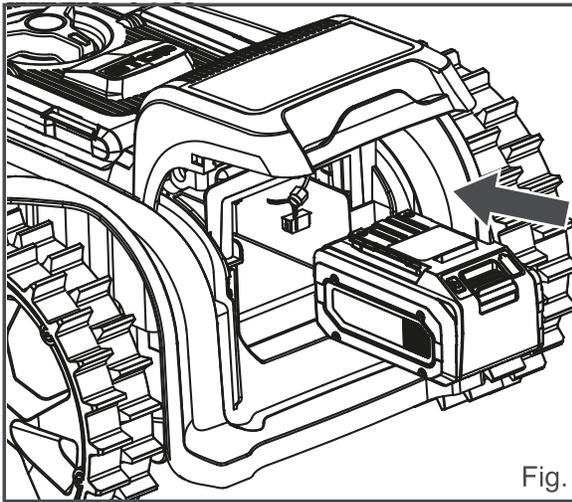

Fig. 22
- Align the support rails located within the battery compartment with the guides in the battery pack, and then insert the battery pack into the compartment (Fig. 22).